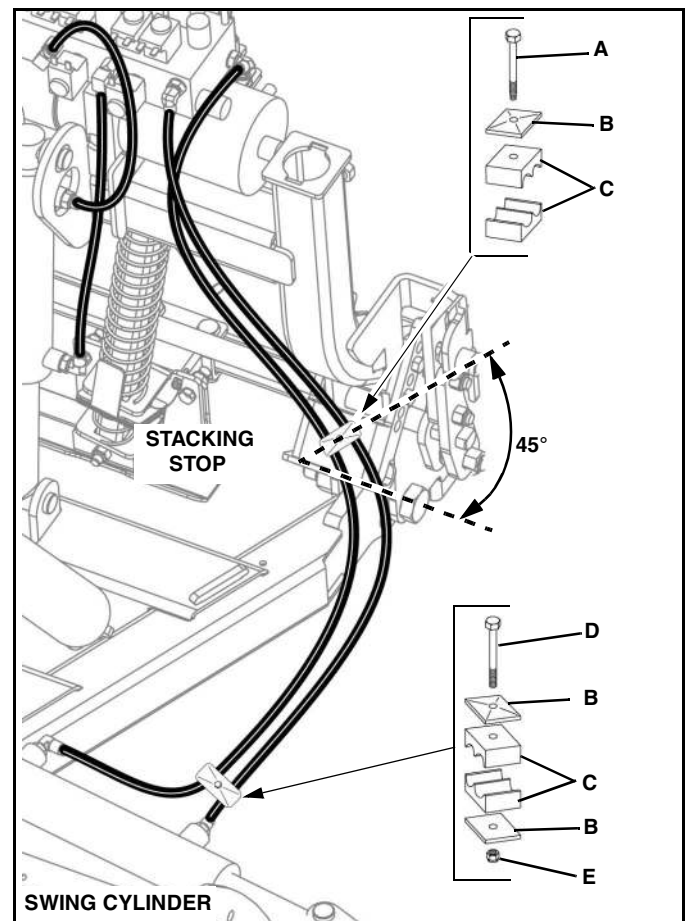

Figure 1-25
17. Secure the left hydraulic hose set with one Hose Clamp Kit (p/n 96112909) as follows (See Figure 1-25):